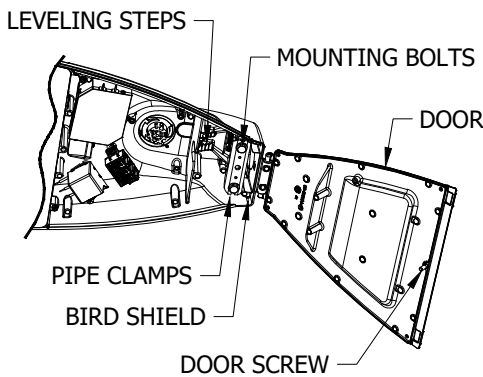

FIGURE 4
1. **BIRD SHIELDS:** THE BIRD SHIELD BEHIND THE PIPE CLAMP HAS A 1 1/4-INCH (1.660 OD) OPENING. REMOVE SHIELD IF LARGER PIPE IS USED. SEE FIGURE 4.
2. **MOUNTING ARM:** UNFASTEN, OPEN AND REMOVE DOOR FROM HINGE CRADLE. ADJUST PIPE CLAMP OPENING SLIGHTLY LARGER THAN PIPE SIZE. INSERT MOUNTING ARM THROUGH BIRD-SHIELD (IF USED) AND INTO THE LUMINAIRE UNTIL IT HITS THE LEVELING-STEPS EXTENDING FROM TOP OF HOUSING. SEE FIGURE 4.
3. **LEVELING:** TILT THE LUMINAIRE UP OR DOWN USING LEVELING-STEPS. TO LEVEL, HOLD LUMINAIRE APPROXIMATELY LEVEL AND SNUG UP BOLTS. ONCE LEVEL, TIGHTEN EACH MOUNTING BOLT ALTERNATING BETWEEN BOLTS. REFER TO INSTALLATION INSTRUCTIONS FOR BOLT TORQUES. DO NOT OVERTIGHTEN BOLTS. IF UPWARD TILT IS NEEDED, LOOSEN BOLTS SLIGHTLY, LIFT LUMINAIRE AND INSERT IT TO THE NEXT SET OF STEPS. IF DOWNWARD TILT IS NEEDED, EXTRACT THE MOUNTING ARM FROM LUMINAIRE TO SIT ON THE REARWARD STEPS. SEE FIGURE 4.